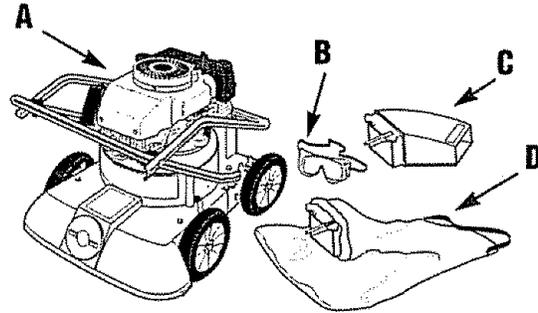

Figure 1: Contents of shipping carton.
Read these instructions in their entirety before you attempt to assemble your new chipper/vac. Your new chipper/vac has been completely assembled at the factory, except for the items shown in Figure 1. To ensure proper operation of your chipper/vac, all nuts and bolts must be securely tightened when changing the configuration of the machine. Use the correct tools as necessary to ensure proper tightness.
UNPACKING INSTRUCTIONS (see Figure 1)
1. The following items are contained in the shipping carton and shown in Figure 1:
- (A) Chipper/Vac
- (B) Safety Goggles
- (C) Blower Deflector
- (D) Collection Bag